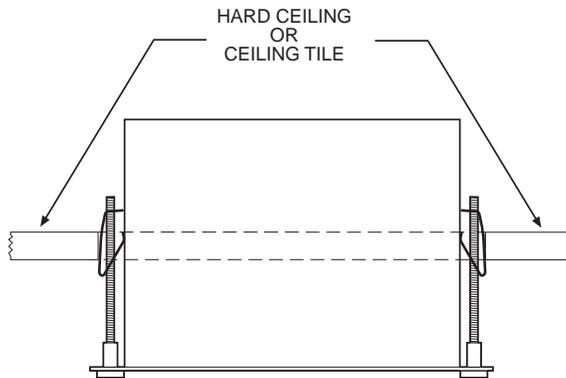
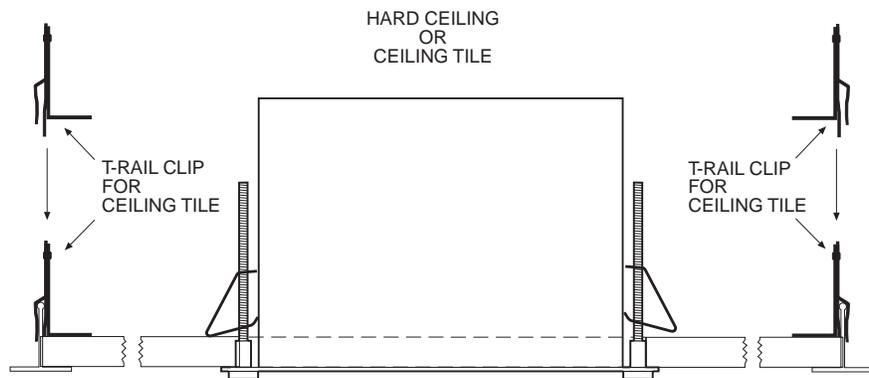

Figure 6. Installing Back Box
Figure 7. Fastening Back Box
7. Refer to Figure 6. Compress the spring clips on the back box with your hands and push the back box through the hole in the ceiling tile. The spring clips will spring out when they clear the ceiling tile.
8. Refer to Figure 7. Tighten the screws until the spring clips hold the back box firmly to the ceiling tile. You will hear a clicking noise when the screws are tight. Do not install the ceiling tile in the ceiling yet.
1. Suspended Ceiling Only (for hard ceiling, go to step 2) - Install the ceiling tile with the back box. Attach a T-rail clip on each side of the ceiling tile as shown in Figure 7.
5. Hard Ceiling Only - Refer to Figure 6. Compress the spring clips on the back box with your hands and push the back box through the hole in the ceiling. The spring clips will spring out when they clear the ceiling. Refer to Figure 7. Tighten the screws until the spring clips hold the back box firmly to the ceiling. You will hear a clicking noise when the screws are tight.